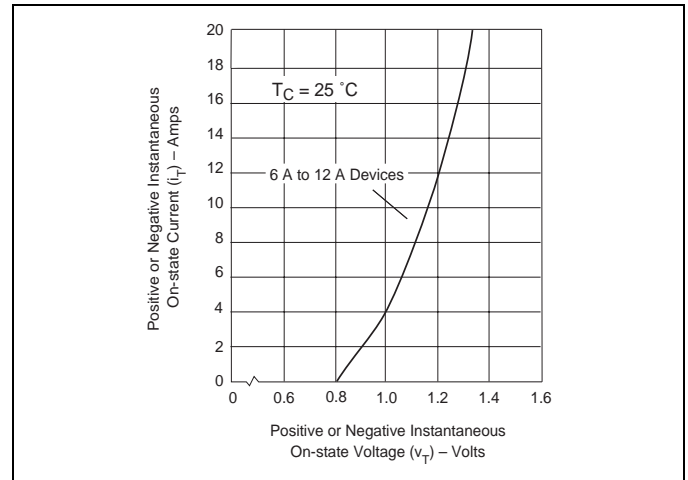
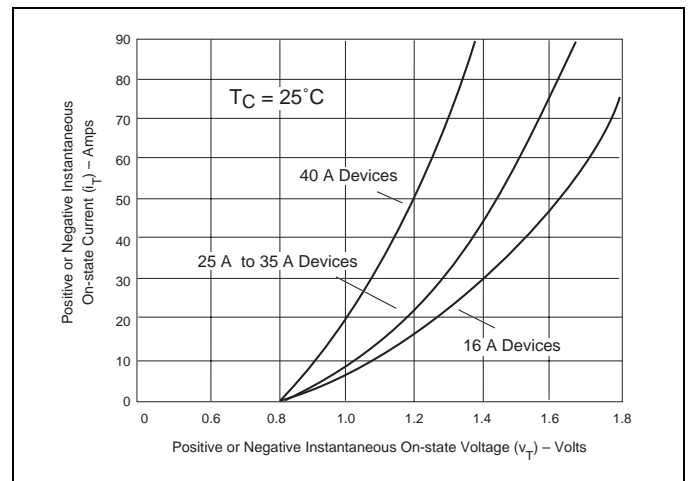

Figure E4.5 On-state Current versus On-state Voltage (Typical) (6 A to 12 A)
Figure E4.6 On-state Current versus On-state Voltage (Typical) (16 A to 40 A)
- (5) See Figure E4.5 and Figure E4.6 for I_T and V_T.